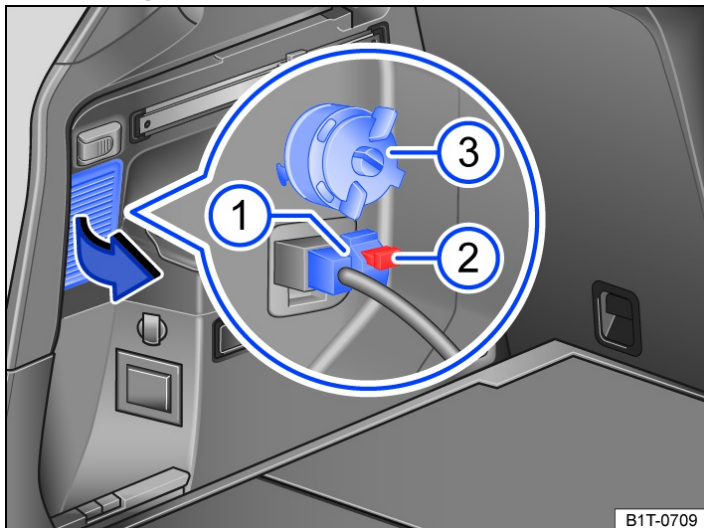

Fig. 1 Side of the luggage compartment: removing the taillight.
1. Open the section of the side trim panel in the luggage compartment near the taillight in the direction of the arrow → *fig. 1*.
2. Remove the fuse → *fig. 1* ①.
3. Press the red catch of the connector and unplug the connector → *fig. 1* ②.
4. Remove the screw by hand → *fig. 1* ③.